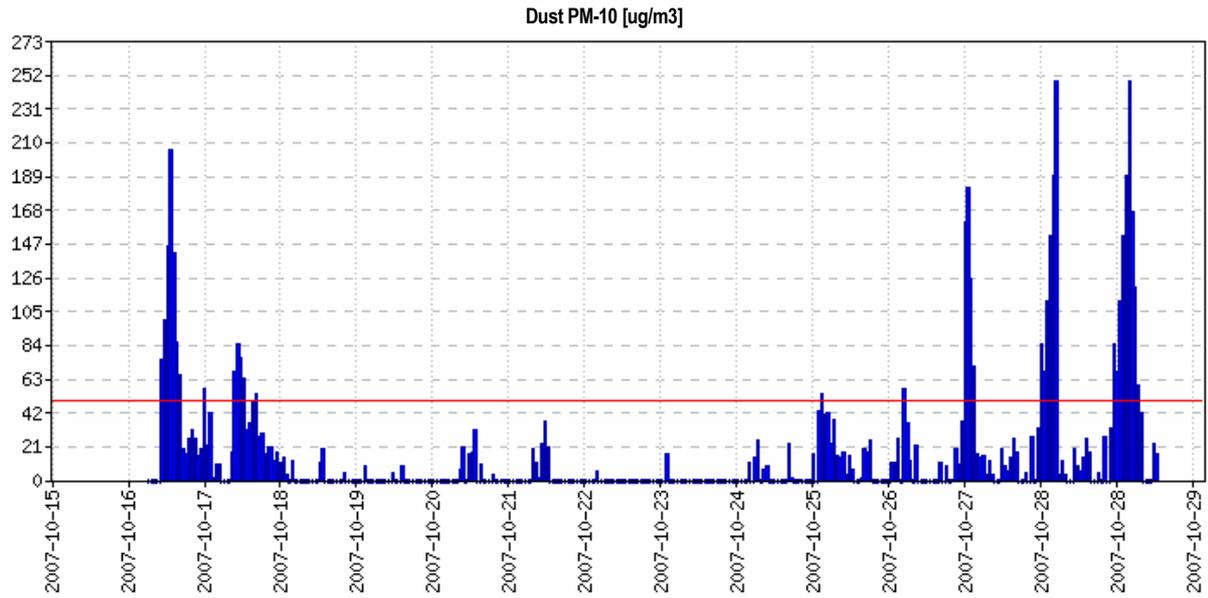

Fig. 28. Detailed bar diagram of dust concentration. The horizontal (red) line denotes permissible dust concentration
- Data presented if a form of table, or in a form of diagram (linear or bar diagram). In case data are presented in the form of table, they are grouped as shown in Fig. 27. For daily data, the number is given how many times the permissible dust concentration is exceeded. The permissible dust concentration is set from menu option “List of monitors”. All presented data can be written in text format into a word or Excel file. Example diagrams of results of measurements are shown in Fig. 28 – 31.